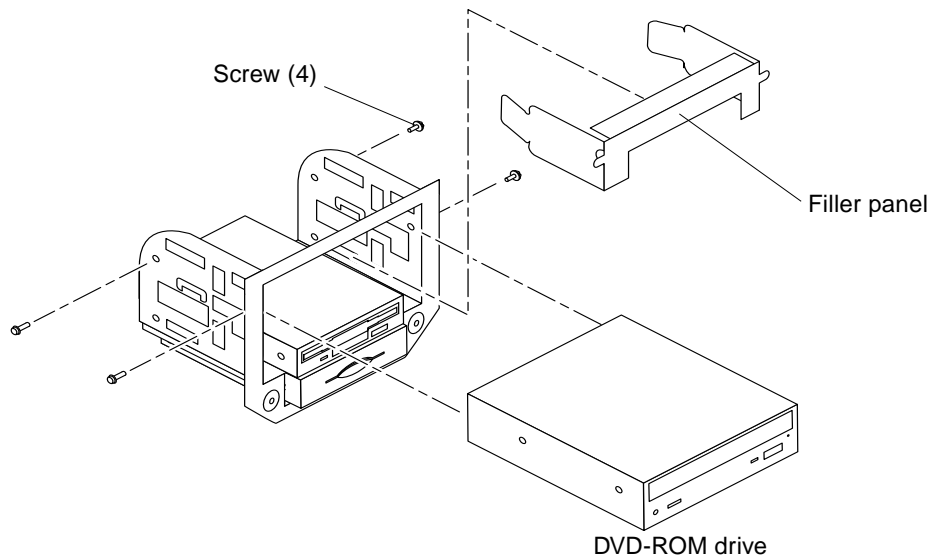

FIGURE 7-3 Removing and Replacing the DVD-ROM Drive
1. Position the peripheral assembly on a flat surface so that the DVD-ROM drive or tape drive is flat (FIGURE 7-3).
1. **Remove the filler panel if necessary** (see FIGURE 7-3).
- 1. Remove the filler panel if necessary (see FIGURE 7-3).**
1. **Remove the filler panel if necessary** (FIGURE 7-3).